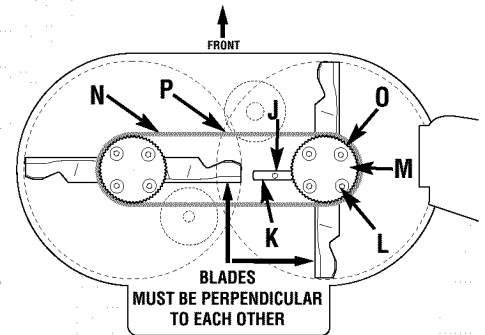

Figure 5-6: Blade Spindle Belt.
**3. Align sight holes (O, Figure 5-6) in pulley with spindle housing-to-mower deck mounting bolts (L).**
**4. Loosen screw (J) and rotate arm (K) to the rear.**
**5. Loosen four mounting bolts (L) securing spindle housing (beneath mower deck) to mower deck.**
**7. Replace belt (N) with new belt. IMPORTANT: SET BLADES PERPENDICULAR (90°) TO EACH OTHER.**
**8. Rotate arm (K) to move spindle housing and apply tension to belt. Belt cogs and pulley grooves must mesh together. When applying moderate finger tension (8-12 lbs.), belt should deflect approximately 1/2" (12.7 mm) at (P), midpoint of deck.**
**9. Tighten bolts (L) to 15 ft.-lbs. (20.3 Nm). Tighten screw (J).**